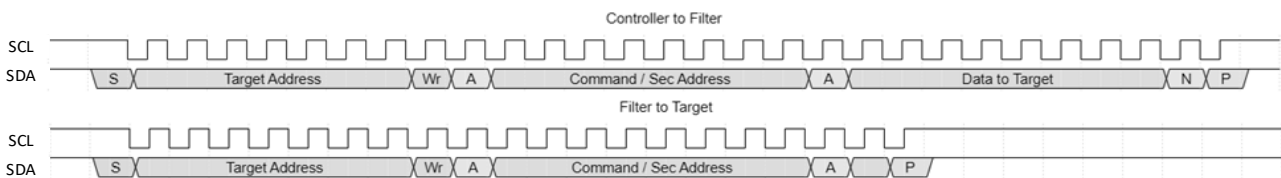

Figure 2.4. I2C Filter Blocked Write Transaction
Figure 2.4 below shows an example of invalid write transaction filtered out through the component, in this case the I2C filter asserts SMBus Stop condition (P) leading to an abort on the Target device, while also responding with a NACK to the Controller device signaling an error in the write transaction. Stop Target device occurs at command phase while NACK to Controller device occurs at first byte data phase. The write transaction is blocked due to the command transferred is not in the allow list.